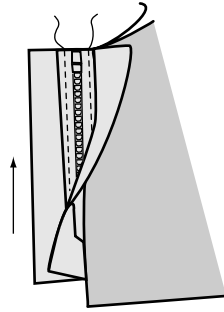

Figure 23
8. Repeat for other side of zipper. (Figure 23)